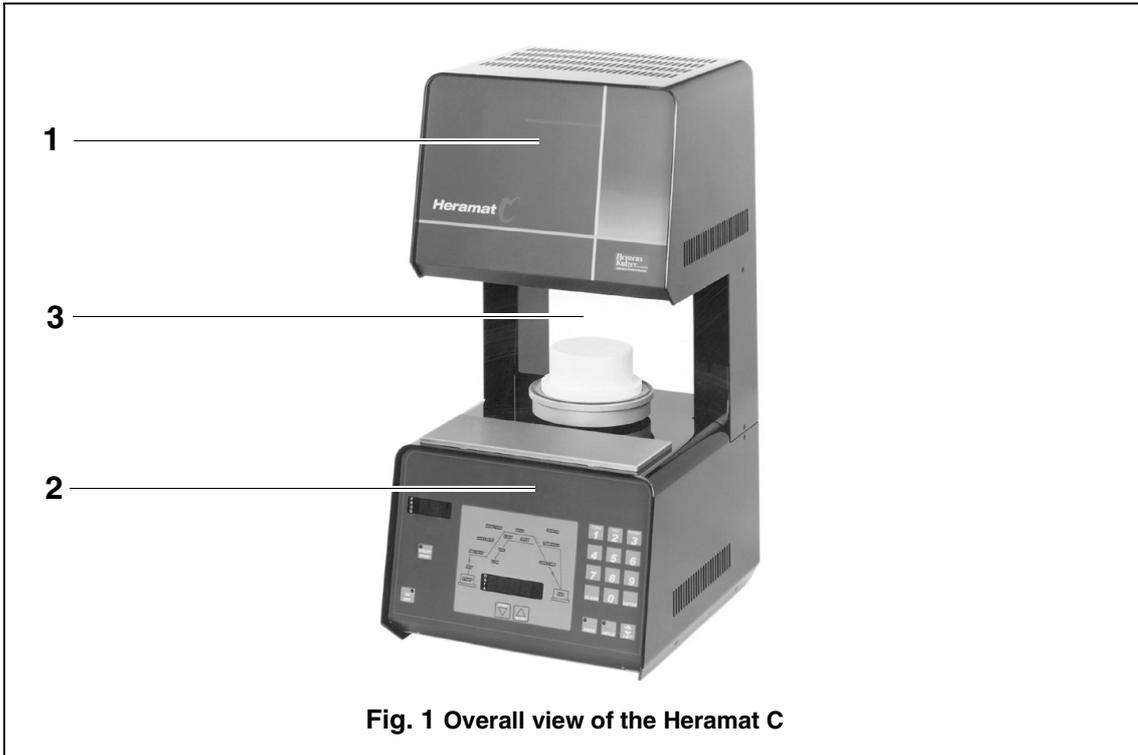

Fig. 1 Overall view of the Heramat C
5.1.1 What do the LEDs in Fig. 1 Overall view of the Heramat C mean?